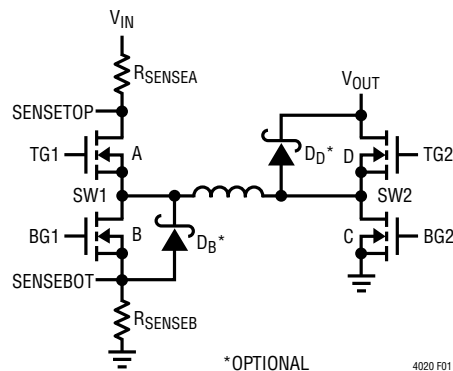

Figure 1. Converter Switch Diagram
As shown in Figure 1, when V_{IN} is higher than V_{OUT} during step-down (buck) operation, switches A (driven by pin TG1) and B (driven by pin BG1) perform the PWM required for accommodating power conversion. Ideally, switch D (driven by pin TG2) would conduct continuously and switch C (driven by pin BG2) would stay off, making PWM switching action much like that in a synchronous buck topology. Switch D uses a bootstrapped driver, however, so switch C conducts for a minimum on time of 150ns each cycle to refresh the driver and switch D is disabled to accommodate this refresh time. A 75ns non-overlap period, separates the conduction of the two switches, preventing shoot-through currents.
Figure 1 shows a simplified diagram of the four power switches and their connections to the IC, inductor, V_{IN} , V_{OUT} , ground, and current sense elements.
The LTC4020 performs inductor current sensing via two resistors connected in series with the V_{IN} side switches (see Figure 1). The high side sense resistor (R_{SENSEA}) is connected between V_{IN} and the drain of the top side switch FET (A). Both nodes on the sense resistor must be Kelvin connected to the IC via the pins $SENSVIN$ and $SENSTOP$. Likewise, the low side sense resistor (R_{SENSEB}) is connected between the source of the bottom side switch FET (B) and PGND. Both nodes on the sense resistor must be Kelvin connected to the IC, via the pins $SENSBOT$ and $SENSGND$.